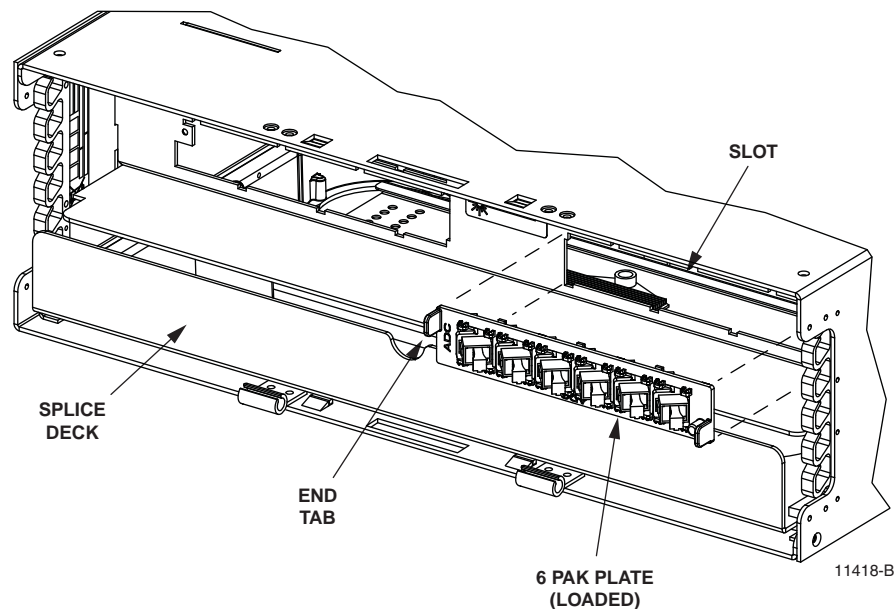

Figure 3. Installing 6pak Plates
2. Align the adapter plate tabs with the notches in the mounting slot as shown in Figure 3.